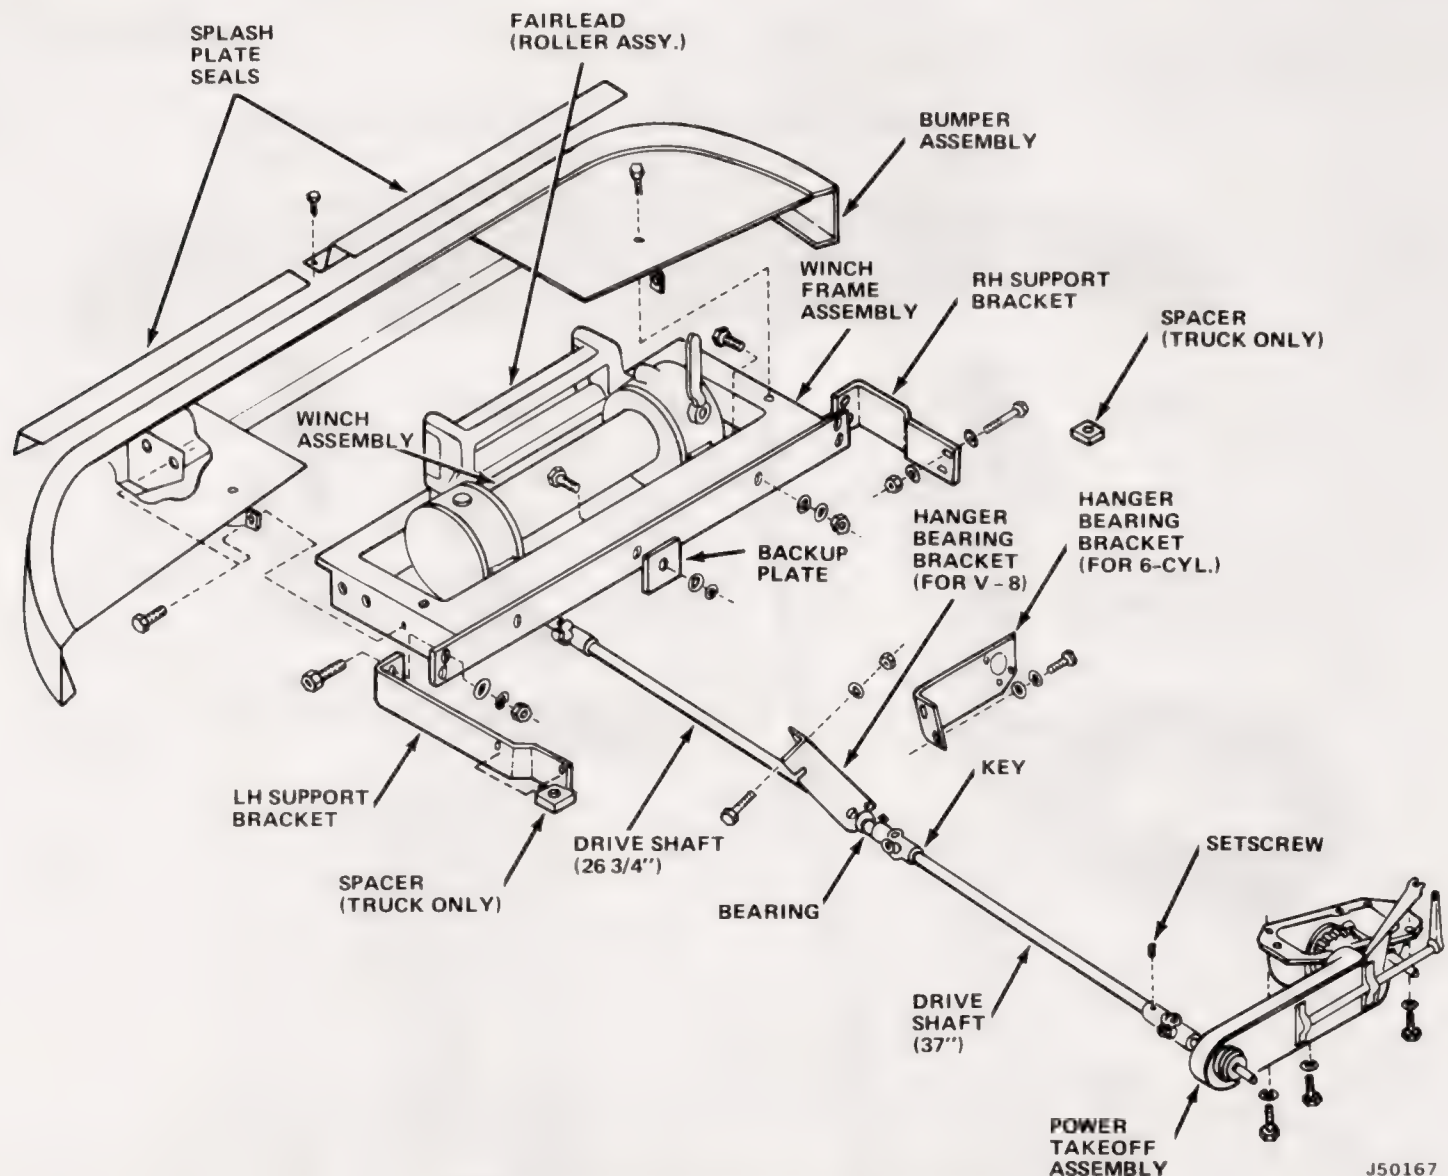
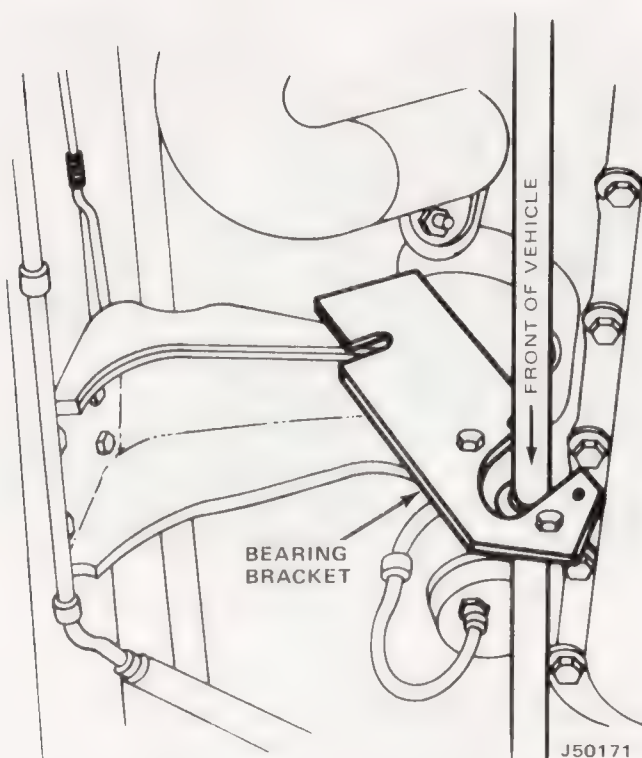

Fig. 5-10 Ramsey Mechanical Winch Kit with Bumper
Fig. 5-13 Bearing Bracket Installation—V-8 Engine
(4) Attach RH support and LH support brackets to winch frame with 7/16-inch diameter by 1-3/4-inch long bolts, lockwashers, and nuts (fig. 5-10).
(5) Attach LH support bracket to vehicle frame
(1) Position RH and LH splash plate seals (fig. 5-10).
(2) Using seals as templates, drill 5/32-inch holes in splash plate. Secure with self-tapping screws.
(1) Position correct hanger bearing bracket in front support with bearing to rear (fig. 5-10). Secure with 3/8-inch diameter by 1/4-inch long bolts and lockwashers. Install universal joint on winch input shaft with key in place.
(1) Position correct hanger bearing bracket with bearing to rear (fig. 5-10). Install universal joint on winch input shaft with key in place (fig. 5-13).